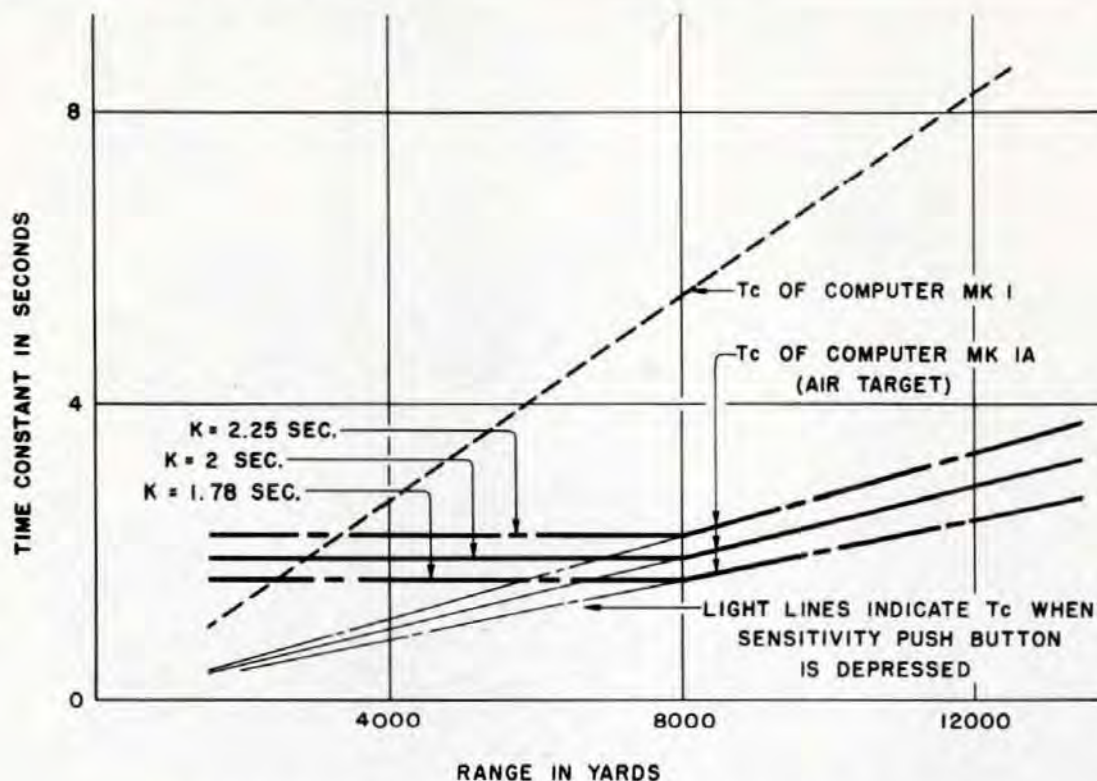
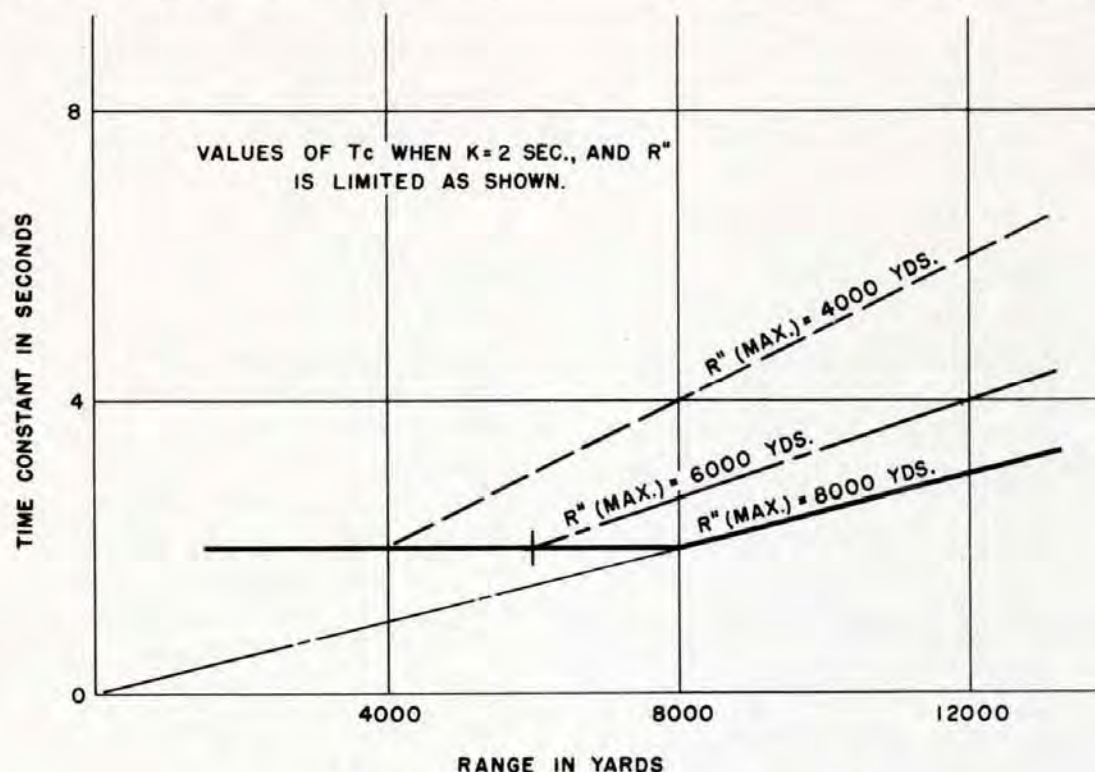
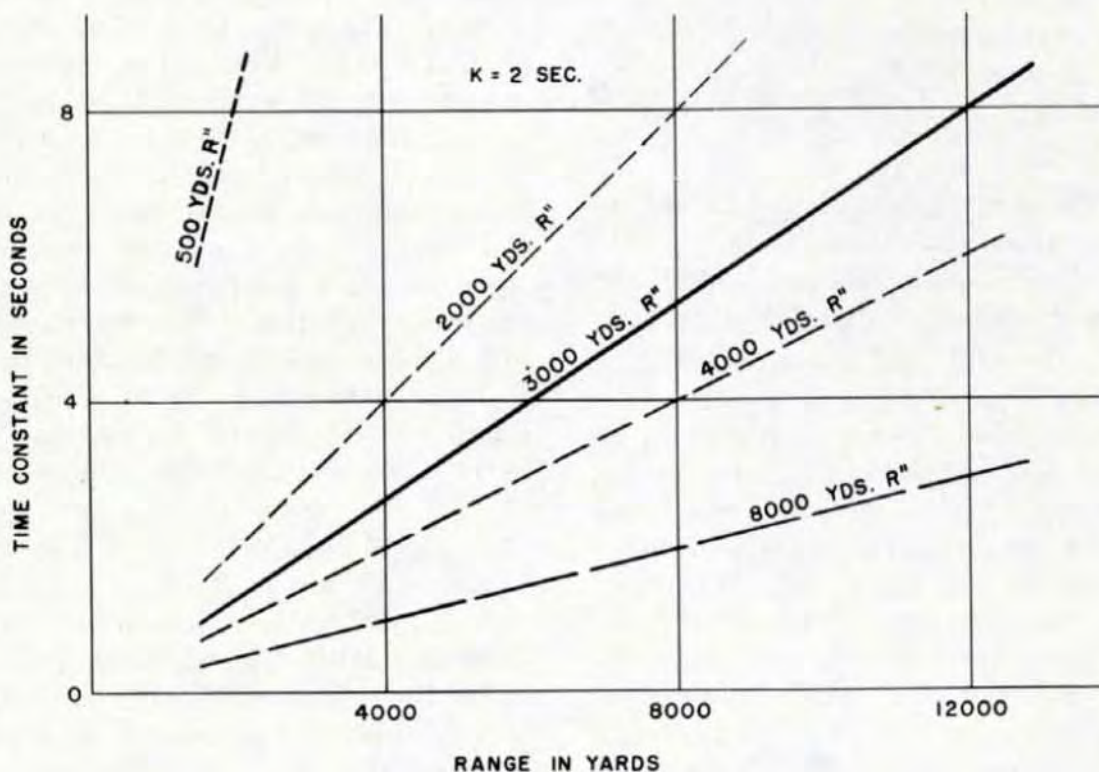

Figure 12. Computer Time Constant Versus Range (Air Target).
Figure 13. Effect of Decreasing Upper Limit of R'' .
Figure 15. Effect of Time Constant Control Transmitter Setting on T_c .
of the difference between observed and generated changes in elevation or bearing to the resulting linear correction was fixed. Thus, the operator had no control over the sensitivity of these networks, and the time constant (T_c) varied at a fixed rate with range. (See figure 12.) The rate of change of the time constant of Computer Mk 1 with respect to range can be expressed by the formula:
TIME CONSTANT CHANGE GEARS. Two sets of time constant change gears are provided for the elevation rate mechanism. Two identical sets are provided for the bearing rate mechanism also. The gears are engraved with time constant values and letters. The letters indicate the shafts on which they are installed. The gears engraved "A, $T_c = 2.00$ " and "B, $T_c = 2.00$ " form one set. When these gears are installed on shafts A and B, the basic time constant of the network in which they are installed is 2.00 seconds. The basic time constant is that value of T_c that is maintained uniform between the ranges of 500 yards and 8000 yards. It is also one of the factors determining the slope of the line representing the changing values of T_c beyond 8000 yards range. (See figure 12.) The basic time constant will be described further in the ensuing functional description; but it should be noted here that the basic time constant is inherent in the gearing of the system; the change gears merely providing a means of altering it.
The values of Tc for all values of range is shown graphically in figure 12. The increasing values of Tc beyond 8000 yards provide greater stability but larger errors at long ranges. However, the increased stability improves the pattern of the projectiles at these ranges. Means are provided for changing the upper limit of the range stop from 8000 yards to 3000, 4000, 5000, 6000, or 7000. The effect of decreasing the upper limit of R'' is indicated in figure 13. It can be seen that, below the limit, Tc remains constant; while for values of range beyond the limit, the time constant increases as the value of the limit decreases.
usual fire control problems. Thus, as long as target elevation does not exceed 35° the values of T_c given in figure 12 can be applied to the bearing network without serious error.
The bearing and elevation time constant of Computer Mk 1 can be expressed by the formula $T_c = \frac{R}{1430}$, in which R equals range in yards. (See figure 12.) No provision was made for operational control of this time constant.
As indicated in figure 12, the time constant of Computer Mk 1A was made shorter
$Tc = 2 \times \frac{R}{8000} = \frac{R}{4000}$. Figure 12 shows this graphically.
From the above, it is seen that depressing the sensitivity push button causes the input, R'' , to remain at 8000 yards for a brief period. During this time the ratio, $\frac{R}{R''}$, in the formula, $Tc = (2) \frac{R}{R''}$ will not equal unity, and the time constant for any range under 8000 yards will be shortened as indicated by the light lines in figure 12.
values of Tc with respect to range approximately equal to those shown in figure 12 for Computer Mk 1. The effect of other settings on the time constant is indicated in figure 15. Increased sensitivity can be obtained by depressing the sensitivity push button. This has the effect of setting R'' at a fixed value equal to the upper limit of the stop. The R''